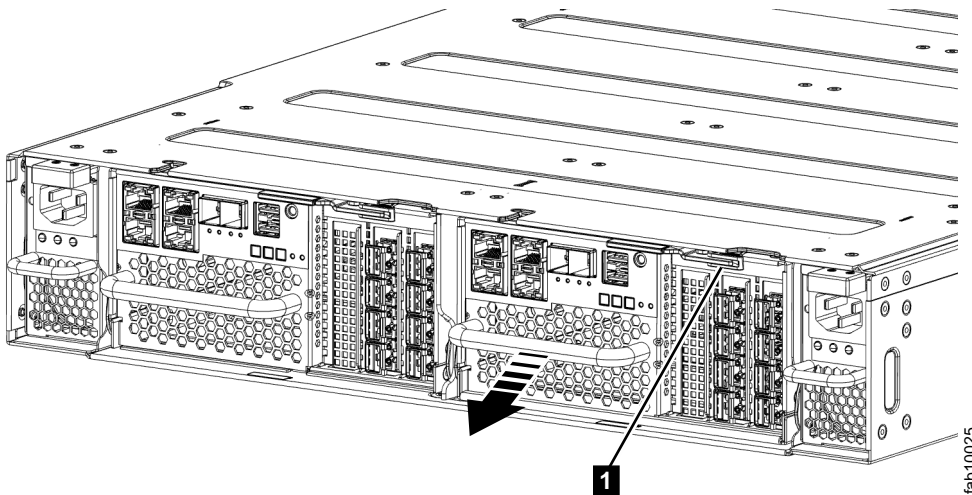

Figure 73. Removing a node canister
6. On the canister, unlatch the release lever and pull it open (see Figure 73). The canister moves out of the slot approximately 0.6 cm (0.25 inch). Be careful that you do not inadvertently disturb or remove any cables that are connected to other components of the system.